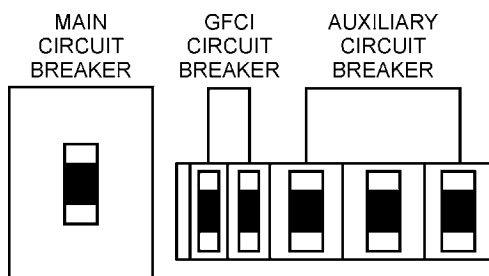

Figure 52. Main, GFCI and Load Circuit Breakers Off
- Place both the **MAIN, GFCI and LOAD** circuit breakers as shown in Figure 52 to the **OFF** position..